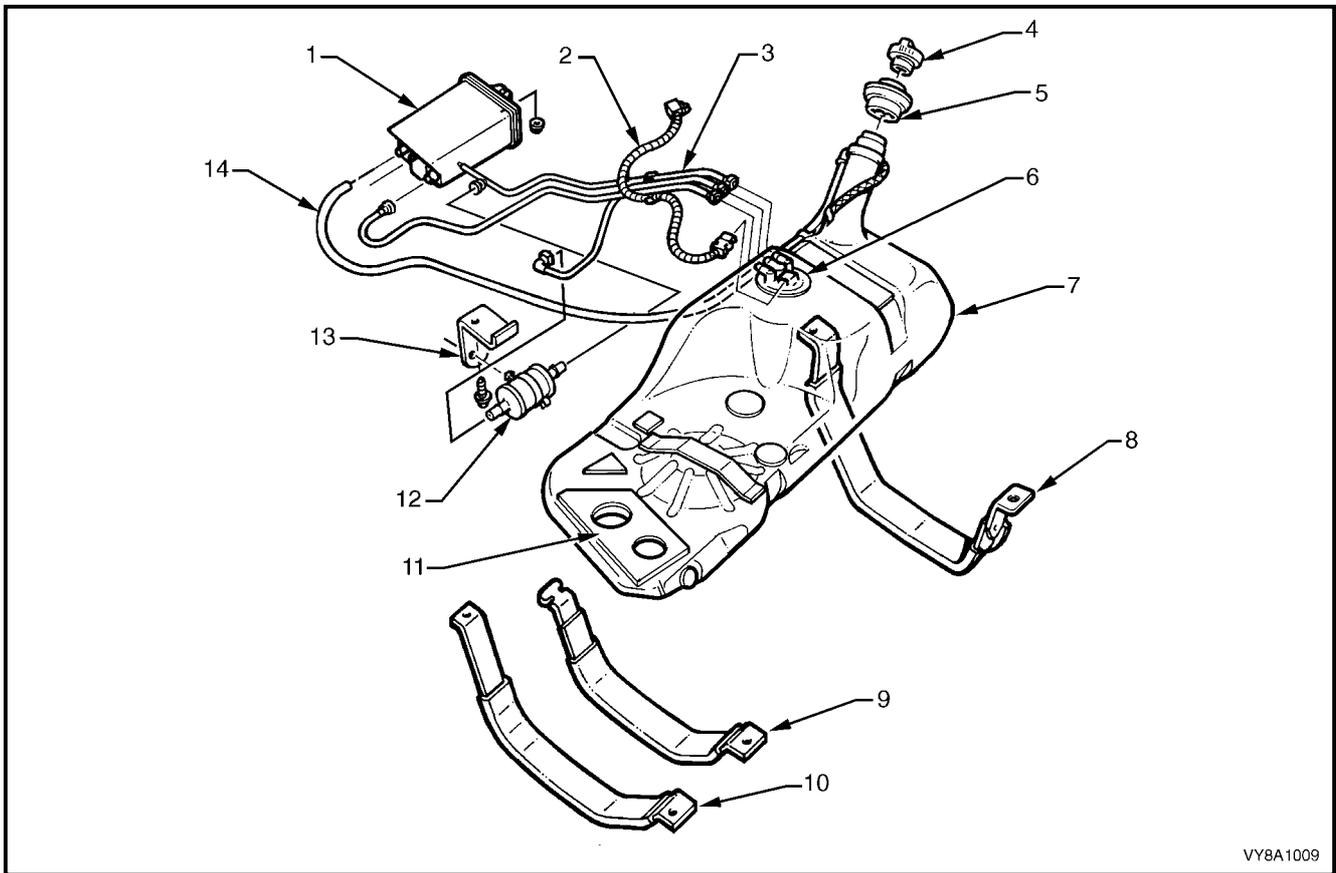

Figure 8A1-54
SERVICE NOTE: Refer to Figure 8A1-53, For GEN III V8 engines use special tool 7371 to remove the fuel feed/return to engine hose (1) quick-connect fitting and special tool AU533 to remove the fuel vapour hose (2) quick-connect fitting, refer to **2.10 QUICK-CONNECT FITTINGS**.